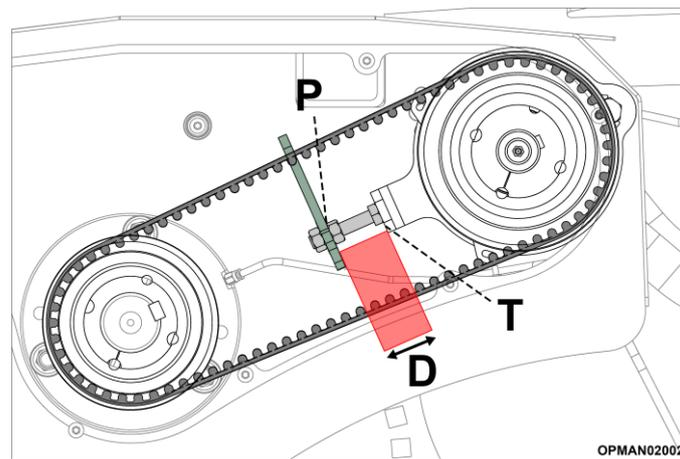

Figure 5.16 – Powerdrive Pro Drive Belt Tension Overview
With reference to Figure 5.16, measure the distance between the tensioner plate (T) and the tensioner bolt plate (P) found in the attachment cowl fabrication. The correct belt tension setting (D) is reached when the distance is set to the distance as shown in Table 5.7.
- 5.7.2.4 With reference to Figure 5.16, measure the distance between the tensioner plate (T) and the tensioner bolt plate (P) found in the attachment cowl fabrication until the correct belt tension setting (D) is reached as shown in Table 5.7.